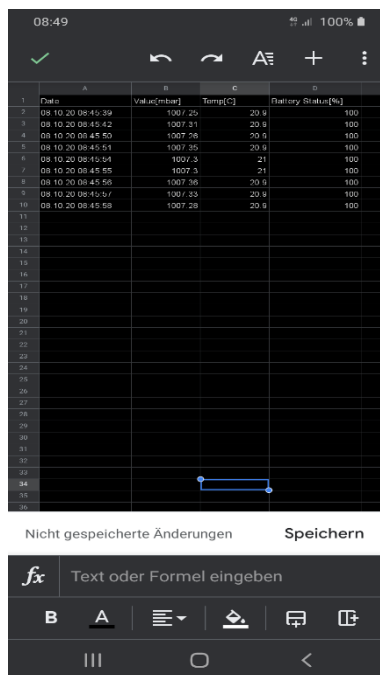

Figure 5: *.csv file after logging
- Start Logging Sensor Data: User is asked to select a storage location and must confirm this by clicking on "Save". **It is important that the name of the file, which is specified when saving, is retained and not changed**. There the measured values for pressure and temperature are stored in a *.csv file. The first column shows the date and time the data was recorded (system time of the mobile/tablet). The second and third columns show the pressure and temperature values. The fourth column shows the battery level (Fig. 5). The file can be opened via an Excel app for further processing.